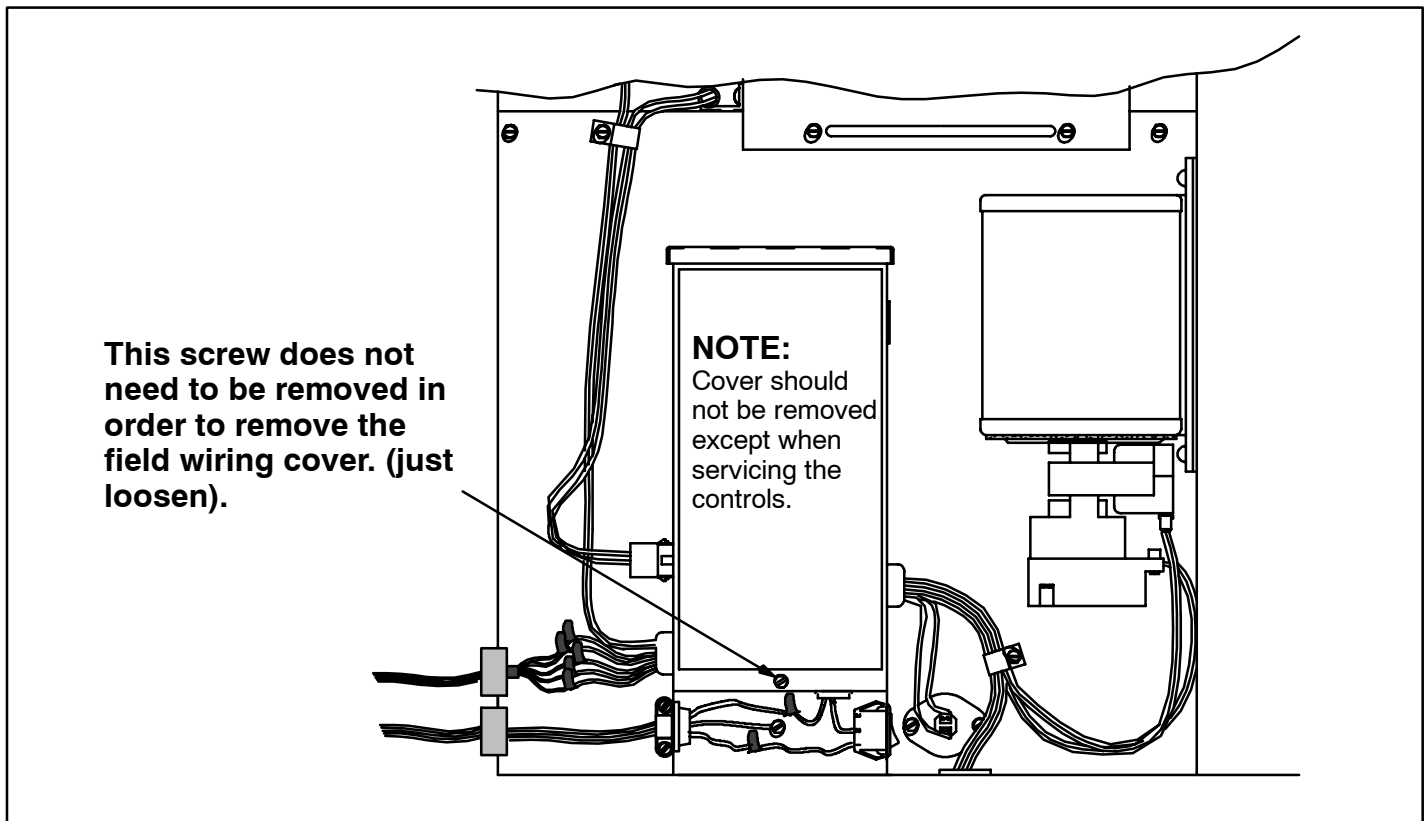

Figure 16
- Insert 115 volt wires through the large plastic bushing on the left side of the furnace (See Figure 16). If conduit is used it should be secured to the control box.
- Connect the thermostat wires to the furnace low voltage pigtails (See Figure16).